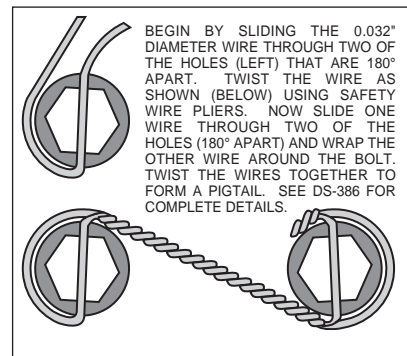

Figure 3. Safety Wire Diagram
- The caliper mount bracket assembly (1) should be installed first with clean, dry threads on the mounting bolts. Install the bracket (1) on the inboard side of the hub by sliding bolt (2) through washer (3). Place two shim washers (4) between the bracket (1) and the mounting ears. The bracket must tighten squarely against the inboard side of the caliper mounting ears on the upright. Inspect for interference from casting irregularities, machining ridges, burrs, etc. Later, after the caliper, pad, and rotor alignment has been checked, and any necessary shims have been put in place, the mounting bolts should be coated with red *Loctite*® 271 and torqued to 47 ft-lbs.
- With the larger I.D. side of the rotor (6) facing away from the hat (7), bolt rotor (6) to hat (7) through the backside of the rotor using washers (8) and bolts (9). Using an alternating sequence, apply red *Loctite*® 271 to the threads and torque bolts to 140 **in-lb**. For an added measure of security, the bolts may be safety wired using standard 0.032 inch diameter stainless steel safety wire as shown in Figure 3. Please refer to Wilwood's data sheet DS-386 (available at www.wilwood.com/Pdf/DataSheets/ds386.pdf) for complete safety wire installation instructions.
- Lubricate caliper mounting studs (13) and nuts (11) with lightweight oil. Install two shims (14) over each stud (13) on the radial mount bracket (1). Slide the caliper (10) in place over the studs and rotor. Snug the lock nuts (11) and check that the rotor (6) is centered in the caliper (10). Add or subtract shims (4 and/or 5) as necessary between the caliper mount bracket (1) and the caliper mounting ears on the upright assembly to center the caliper. **NOTE:** *Move the rear suspension through its complete range of motion checking for any interference between the Wilwood brake caliper and suspension components.* For optimum clearance, it may be necessary to reverse the sway bar end-link mounting bolt with the nut inward, away from wheel.
- Remove the caliper center bridge pad retainer bolt, nut, and tube from the caliper. Slide the brake pads (15) into place. They should install easily without interference. Check that the outside radius of the brake pad is flush with the outside diameter of the rotor face. Add or subtract shims (14) between the caliper and mount bracket to gain the proper alignment. Reinstall the center bridge pad retainer tube, bolt, and locknut. The locknut should be snug without play in the bolt or tube. Be cautious not to over tighten.
- Adjust the parking brake shoes outward (using a drum shoe adjustment tool available at your local auto parts store) while spinning the hat (7) until a slight drag is felt against the hat/drum. Remove the lug nuts that were holding the hat/rotor in place. Install the wheel and lug nuts. Check to see that the wheel rotates freely without interference.
- Once all clearances have been checked, remove the wheel, caliper, hat/rotor from the axle flange. Secure the caliper mounting bracket (1) to the OEM caliper mounting ears, bracket to be secured with bolts (2) using red *Loctite*® 271 on threads. Torque the bolts to 47 ft-lbs. Reinstall the hat and rotor assembly and again use several lug nuts to hold it in place. Reinstall the caliper, torque the caliper nuts (11) to 30- ft-lbs.